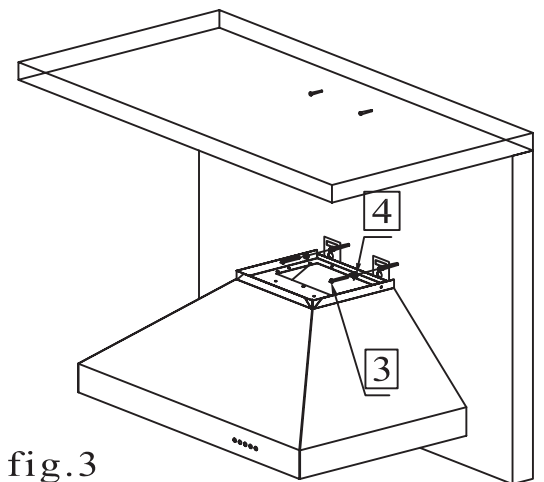

fig. 3
**Step four:** Mount the main body of the hood to the two screws and screw into place. fig 3